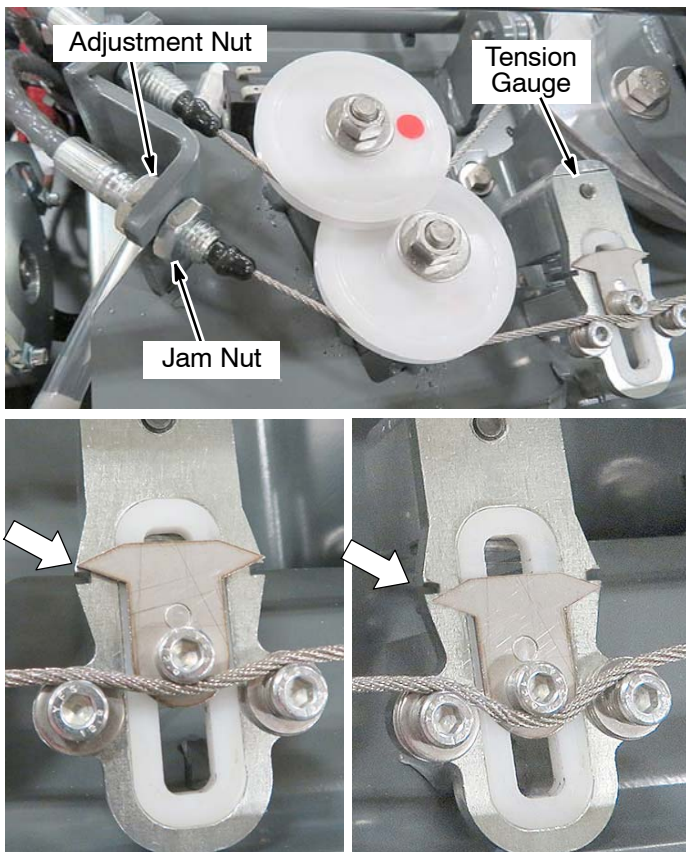

Fig. 4
6. Compress the tension gauge tool by hand and place it on the top steering cable as shown (Figure 4).